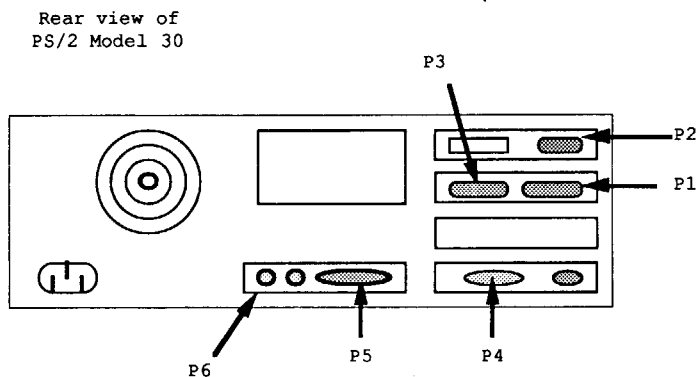

**Figure 10**
1. Connect the video adaptor cable to the PS/2 Model 30 video output port as shown in Figure 10. Note that the middle slot is used for the Trackstar board, and the top slot is used for an Apple joystick port.